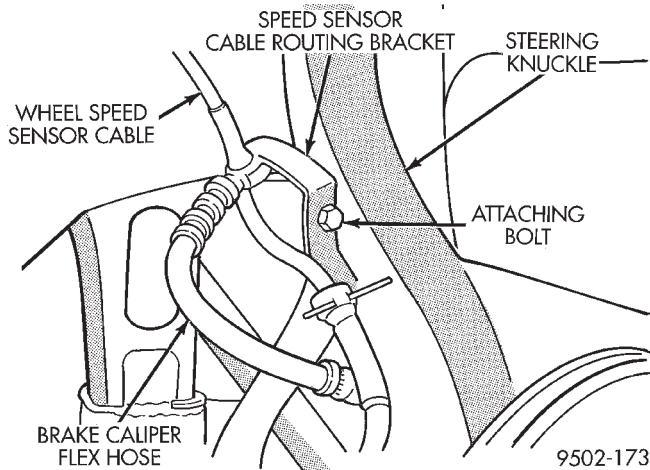

Fig. 20 Speed Sensor Cable Routing Bracket
(12) If equipped with antilock brakes remove the speed sensor cable routing bracket (Fig. 20) from the steering knuckle.
(5) If equipped with antilock brakes install the speed sensor cable routing bracket on the steering knuckle (Fig. 20) and securely tighten the attaching bolt.